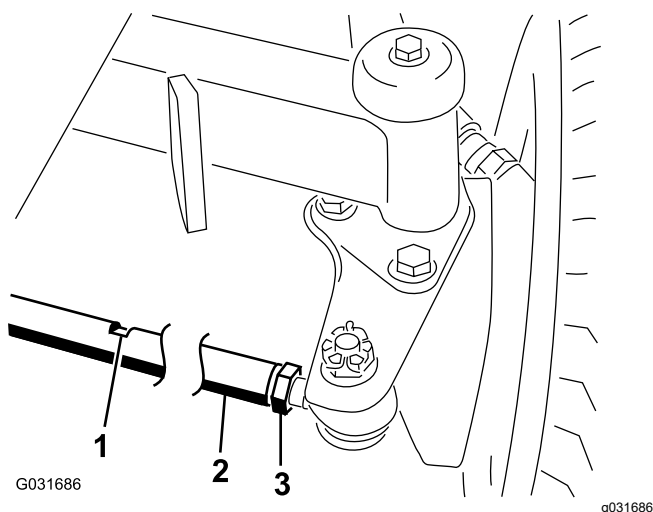

Figure 83
2. Loosen the jam nut on each end of the tie rod (Figure 83).